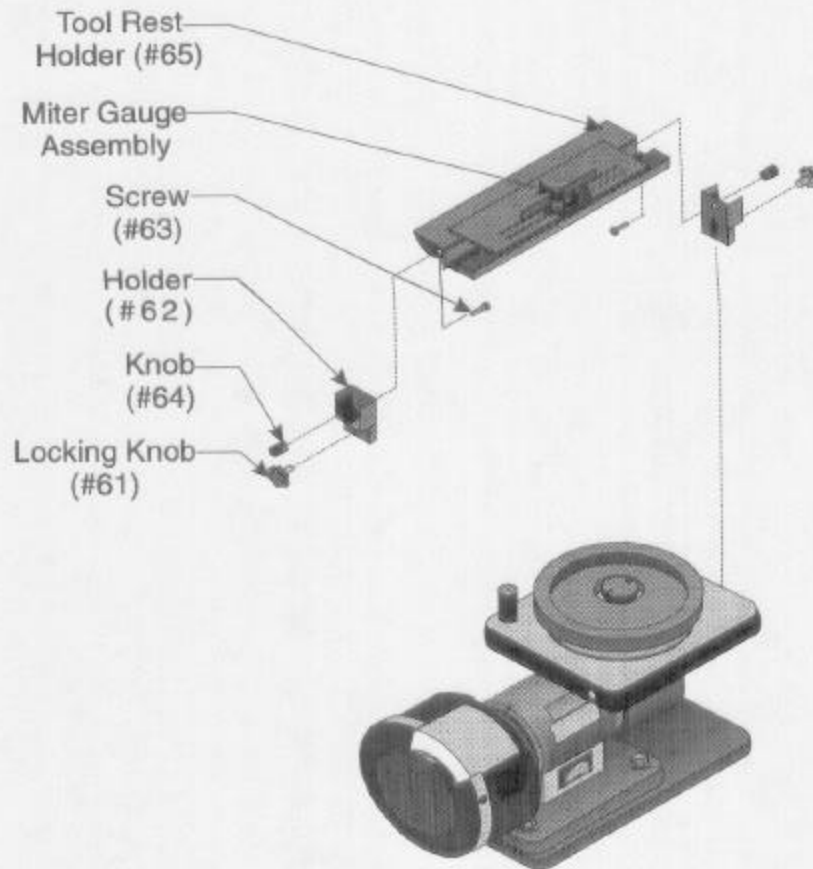

Figure 1 -- Adjustment of Rest Holder (#65)
Step 2: Attach HOLDER (#62) to TOOL REST (#65) using the KNOB (#64) and SCREW (#63). See Figure 1.